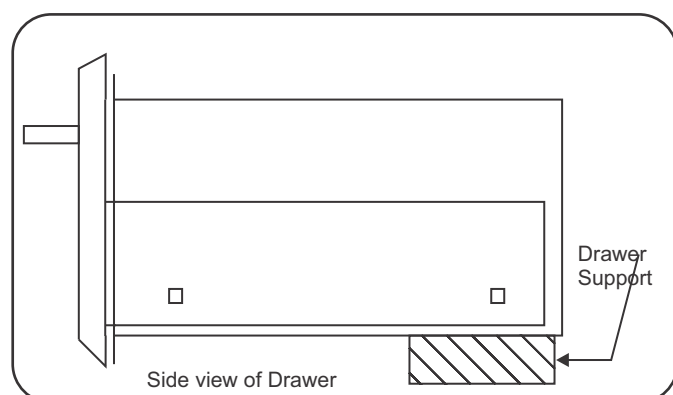

Figure 2 - Drawer support
**NOTE:** it is recommended that you provide a secure surface for the rear of the drawer frame to rest on. This will help support the drawer's weight, along with the weight of its contents. The surface should be 1/8" higher than the front opening cutout. This will ensure that your drawer sits level. See Figure 2.
**PROPANE (LP)TANK DRAWER - MODEL NUMBER K00AA2914:**